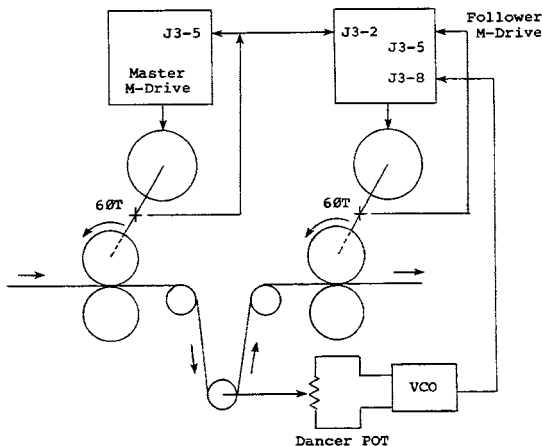

Figure 8-1: Web Process illustrating Offset Format
Figure 8-1 below illustrates a simple web process. Note that this application contains a loop which is controlled by a dancer POT. The example illustrates the use of a voltage controlled oscillator from the dancer POT to the Auxiliary Frequency Input. (The Analog Input could also be used, eliminating the VCO.) The frequency output of the oscillator is then applied to J3 pin 8 of the Follower M-Drive. Depending on this output value, the M-Drive adjusts the speed of the Follower Motor up or down as required to maintain the dancer POT position.
- o Nip rolls in Figure 8-1 are 1 foot in circumference